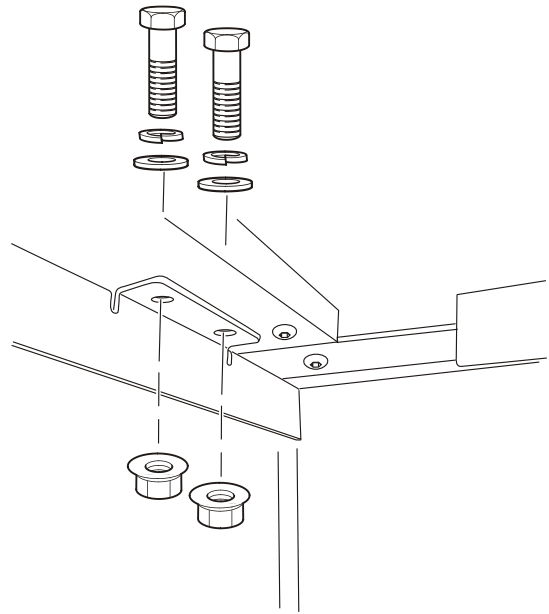

Figure 12
20. Fit 7 M6x20 bolts, spring washers and flat washers across the front canopy front rail and fix in position using a flanged nut on the lower surface. Refer to figure 12.